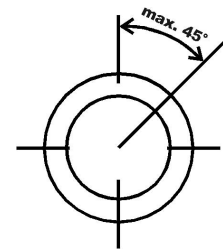

Fig. 1
- ✚ The switches should only be installed in a vertical position, deviation max. 45° (Fig. 1).